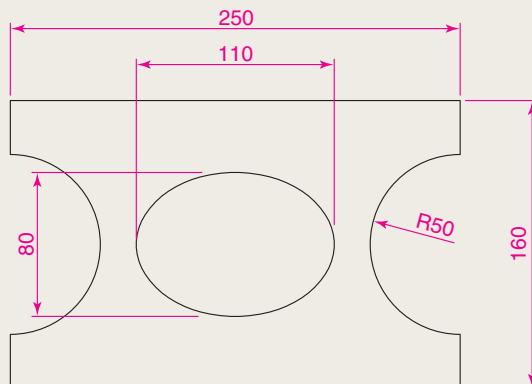

Fig. 12.53 Exercise 7
7. Working to the dimensions given in Fig. 12.53 construct an extrusion of the plate to a height of 5 units.